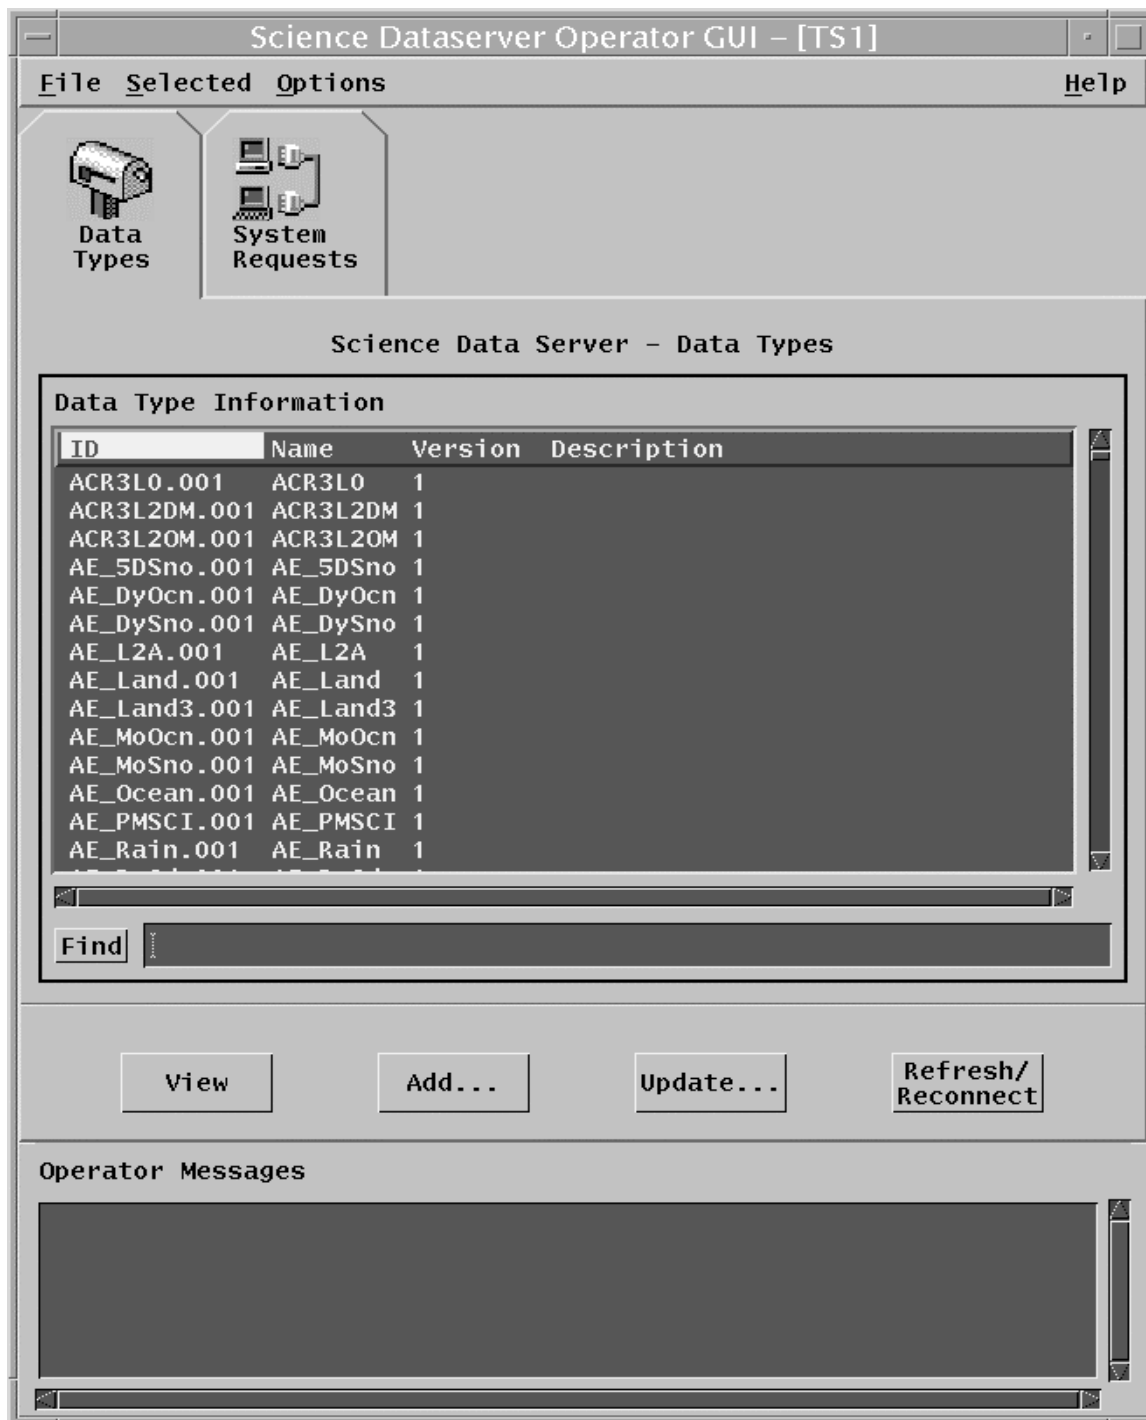

Figure 15. Science Data Server Operator GUI
- The Science Data Server GUI (Figure 15) is displayed.